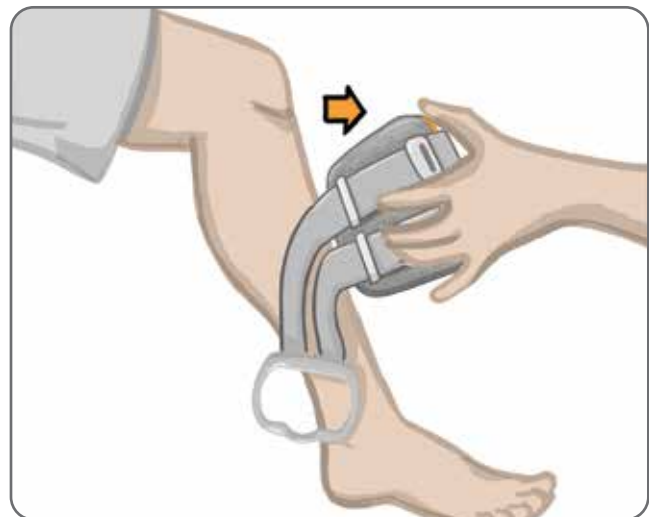

Figure 8-7: Removing the Lower Leg Cuff with Captured Electrode Bases
8. Gently remove the Lower Leg Cuff from the leg. See Figure 8-7.